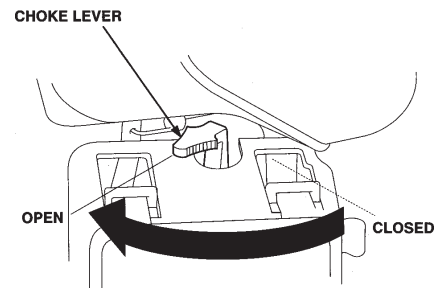

Figure 15. Choke Lever (Open)
8. If the engine has started, slowly return the choke lever (Figure 15) to the "OPEN" position. If the engine has not started repeat steps 1 through 6.